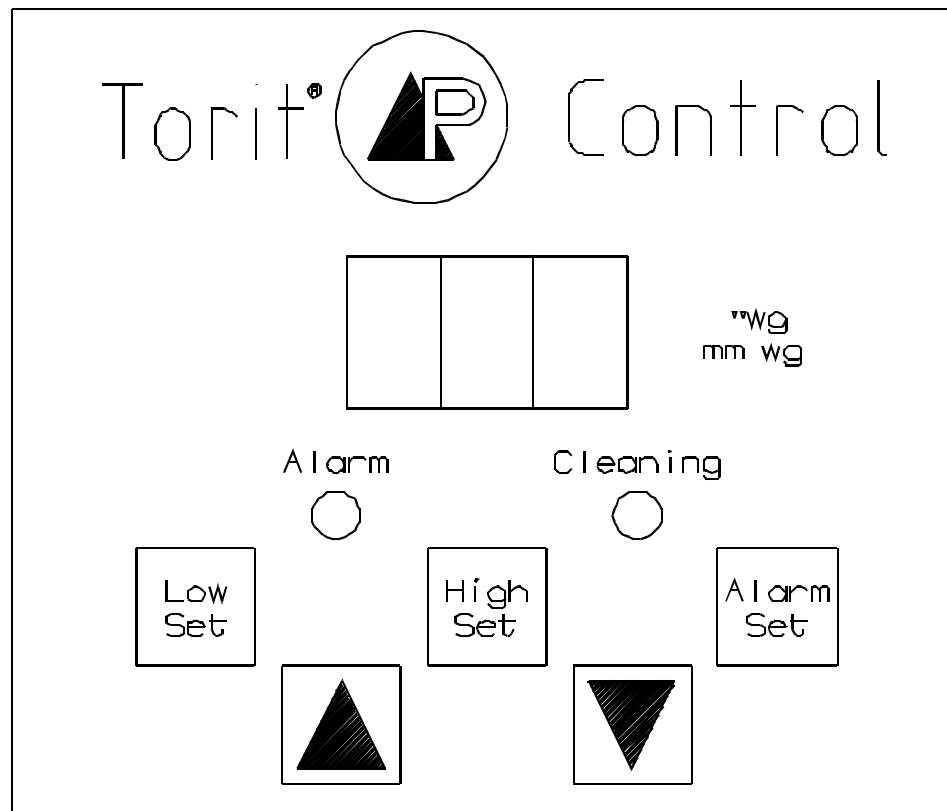
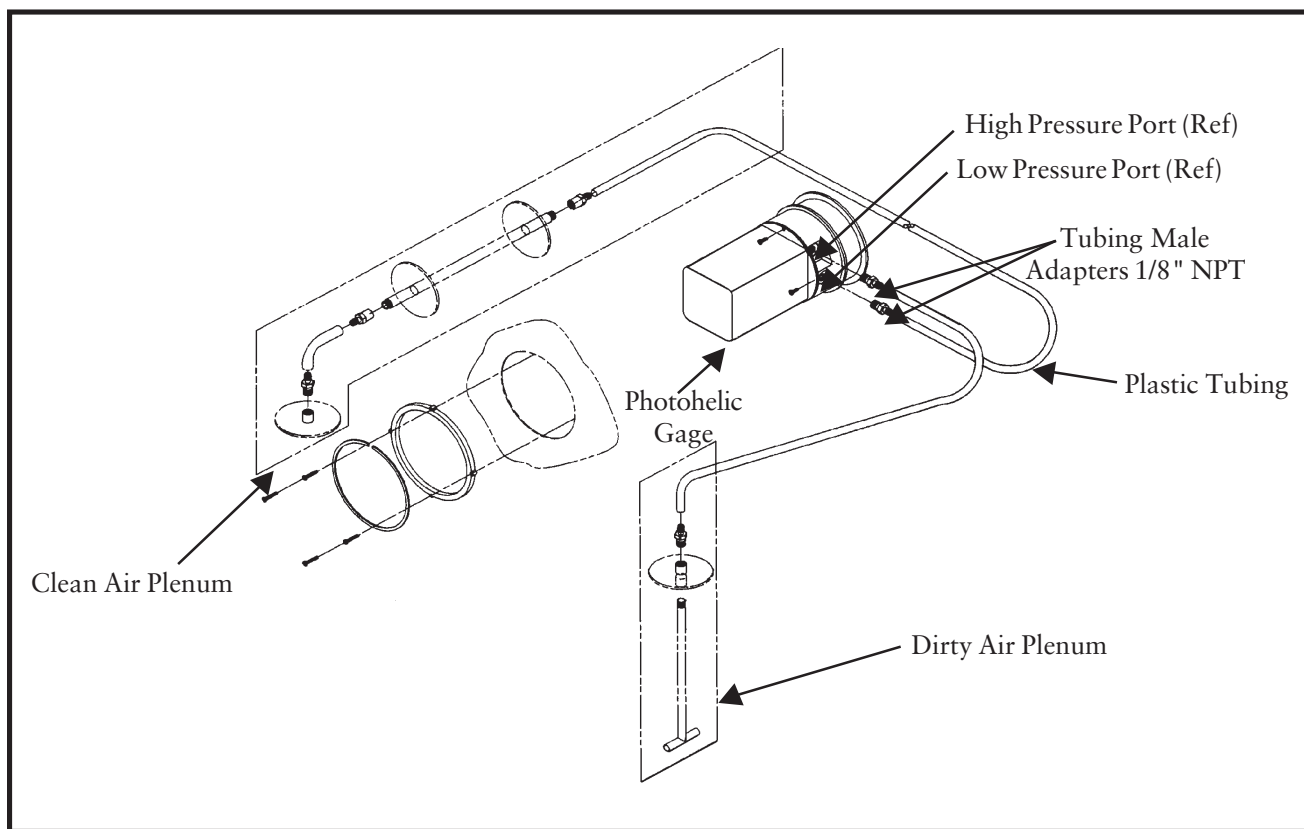
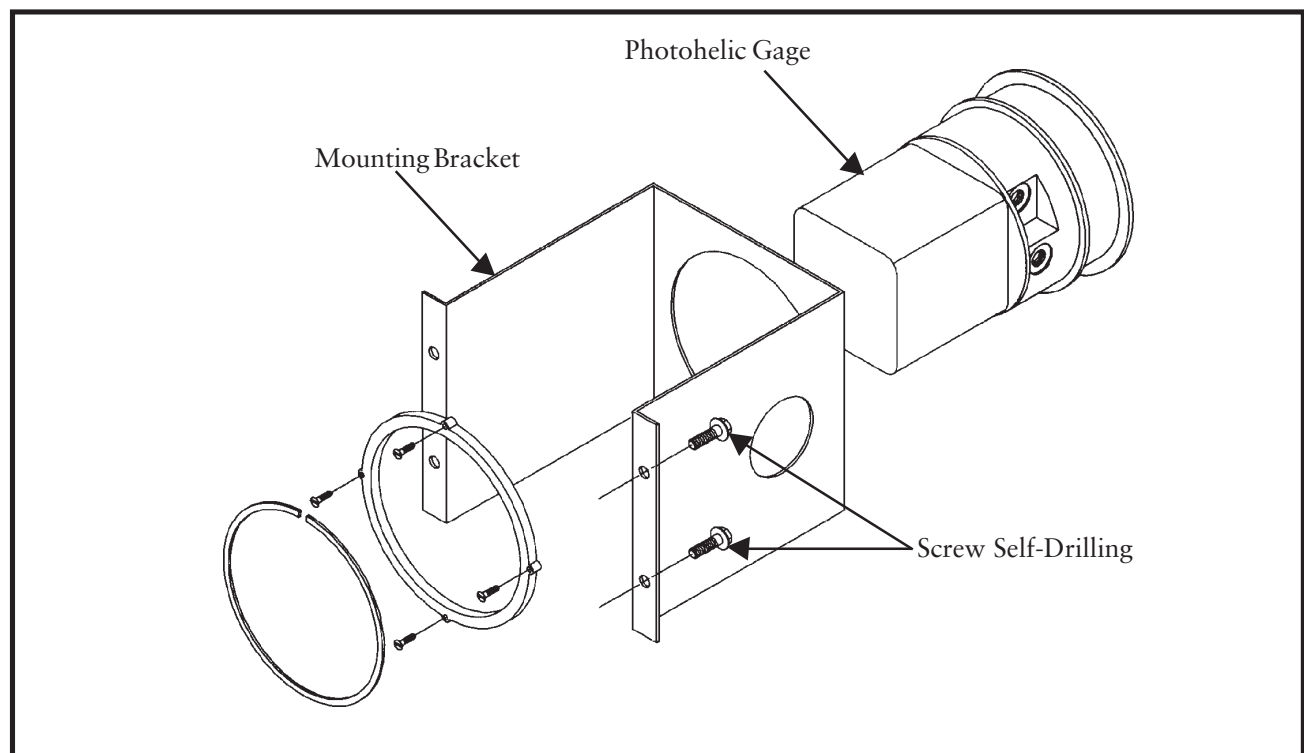

Figure 32
Figure 34
Figure 35
2.6.5 Torit ΔP Control (See Figure 32
2.6.6 Photohelic Gage (See Figure 34 Photohelic Gage & Figure 35 Remote-Mounted Photohelic Gage)
Mount the remote gages as shown in Figure 35 Remote-Mounted Photohelic Gage. Make the connections as shown in Figure 32 Photohelic Gage. The high pressure port is connected to the dirty air plenum. The low pressure port is connected to the clean air plenum. The high and low pressure connections are located in the electrical compartment. Use bulkhead fittings and mount them through the cabinet to the electrical compartment. Wire the Photohelic gage per the instructions previously stated in this section.
3. **Press and hold** the LOW SET, HIGH SET, and ALARM SET keys while reapplying power to the Δ P Control. Continue to hold these keys while the Δ P Control goes through a power-up routine. This is indicated by sequentially displaying "8" in each digit, and then displaying "0.0" (see Figure 32 Δ P Control Display).